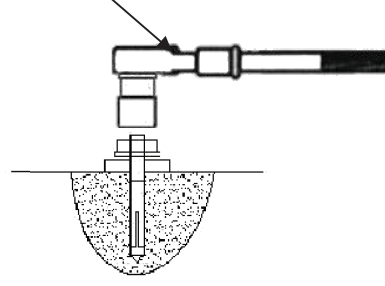

**Fig. 21**
1. Hang the top beam to the extension column and tighten the bolts. **(See Fig. 21).**